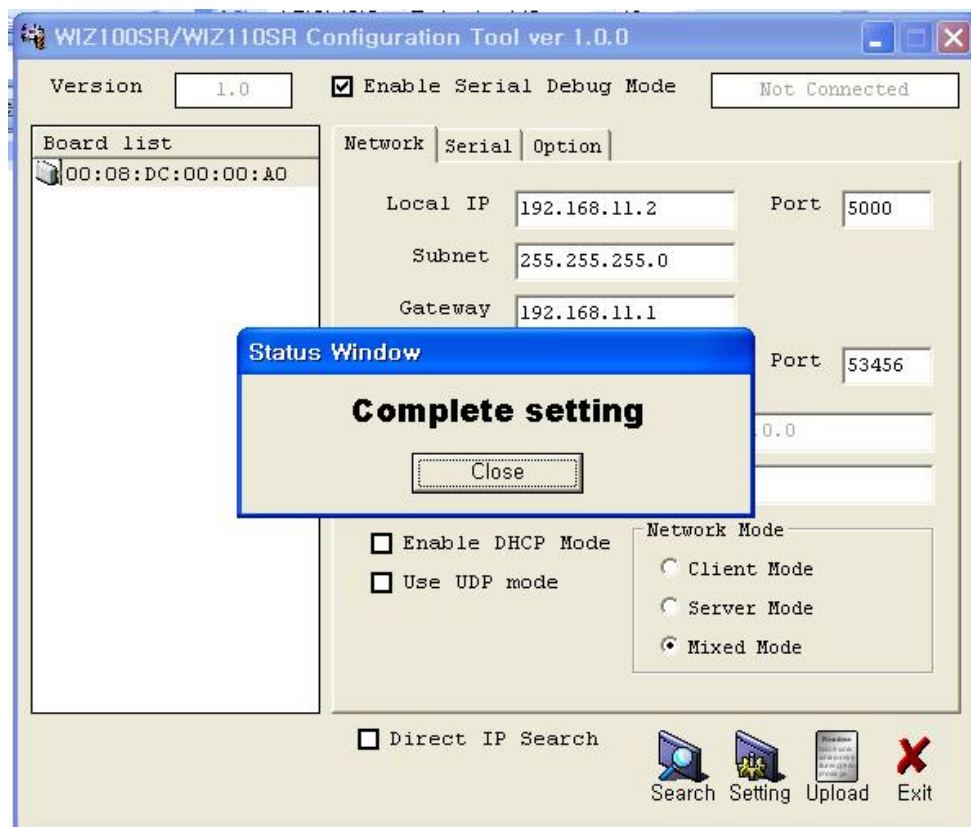

Fig 18 Result Window after Running "Setting"
- ① Make sure the position of the mode switch is normal mode. (If JP4 of the test board is configured as Config mode, the network function is disabled, and the Configuration Tool can not be used.)
- ② Connect the computer and WIZ100SR Test Board by using RS-232.
- ③ Connect the computer and WIZ100SR Test Board by Ethernet cable (Direct or Crossover Cable).
- ④ Power on the WIZ100SR Test Board.
- ① Modules are searched by click search button of the Configuration Tool.
- ② Select the board to be configured and change the value. To apply the changed value, click Setting button.
- ③ If changed value is successfully applied, the "Complete setting" message is displayed as shown in Fig 18